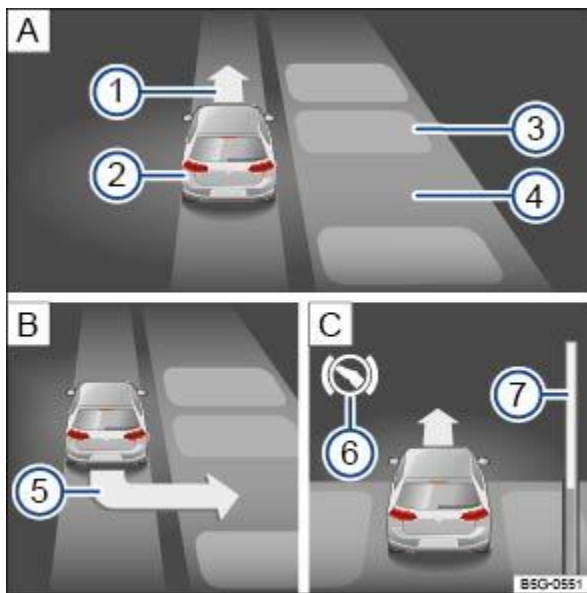

Fig. 131 On the instrument cluster display: parking perpendicular to the road.
Drive into the parking space when a corresponding prompt ⇒ Fig. 131 is shown on the instrument cluster display ⇒ Driving into a parking space .
Key to ⇒ Fig. 131 :
Brake when an acoustic signal sounds to indicate that you should change direction, an arrow ⇒ Fig. 131 ① **A** lights up, the display  lights up or a message is shown.